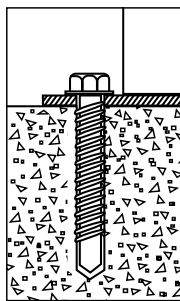

Figure 5
10. Insert the four concrete Wedge-Bolt Anchors into the corner holes of the mount. Begin tightening the Wedge-Bolt Anchor by rotating clockwise and applying pressure in toward the base. This will engage the first few threads as the Wedge-Bolt Anchor begins to advance. Continue to tighten until the head of the Wedge-Bolt Anchor is firmly seated against the post mount (Figure 5). Repeat for the remaining Wedge-Bolt Anchors.